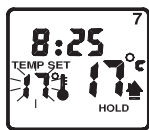

Figure 16
- Use the and button to set your desired temperature; when it is done, release buttons and wait for 10 seconds, then the setting will be maintained. (Figure 16)